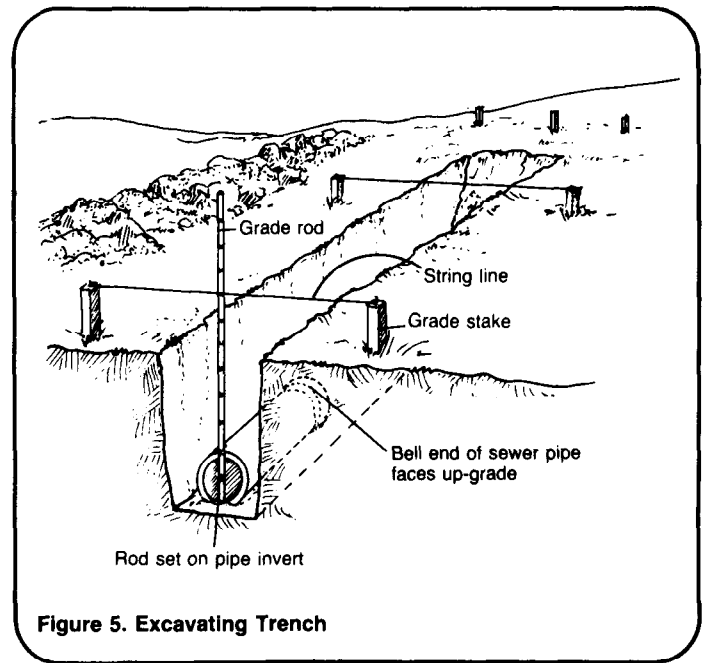

Figure 5. Excavating Trench
3. Excavate the trench. Begin excavating the trench, making it as narrow as possible. A 600mm wide trench is sufficient for a 100mm pipe. Check the line and elevation of the trench bottom with a grade rod and a string stretched between a pair of grade stakes as shown in Figure 5. If the bottom of the trench is rocky or soft, excavate about 100mm below the invert grade and fill with gravel.